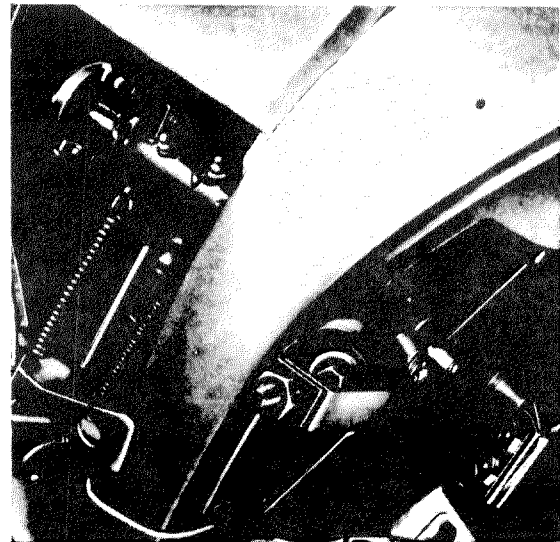

Fig. 29-5/3
3. Unscrew the two hexagon and locking nuts attaching the flange (8) to the jointing disk (9) (Fig. 29-5/2).